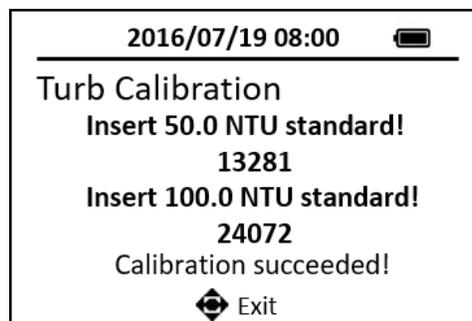

Figure 22. High Range Turbidity Calibration
11. Press the **OK** key to measure the selected standard. High range turbidity calibration is successful. (Figure 22)